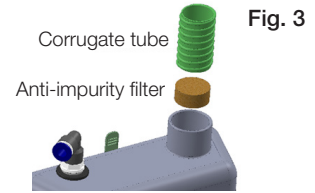

Fig. 3
- Insert the anti-impurity filter into the NUVOLA MINI inlet port and then connect the corrugated tube. **(Fig. 3)**